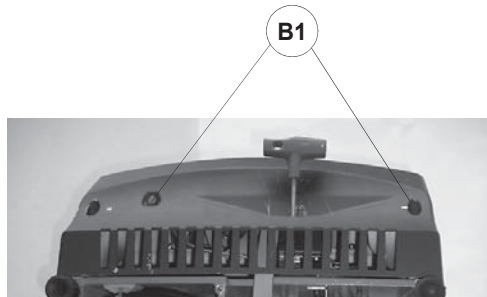

Fig. 137
- 2) remove the display's support, by unscrewing the 2 (B1) fixing screws (fig. 137).